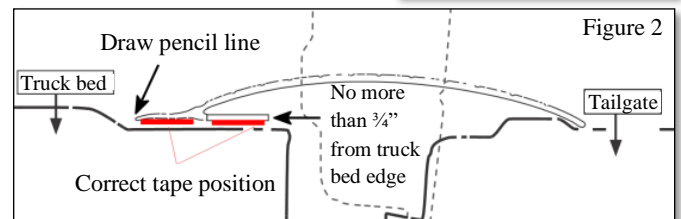

Figure 2
- In most cases, the rearward (stiffer) flange of the GapShield™ should be flush with the rear edge of the truck bed, but never more than ¼ inch forward from the edge, as shown in Figure 2. Use rear edge of truck bed as a guide or draw a straight pencil line on the truck bed along the forward edge of the GapShield™ for reference.